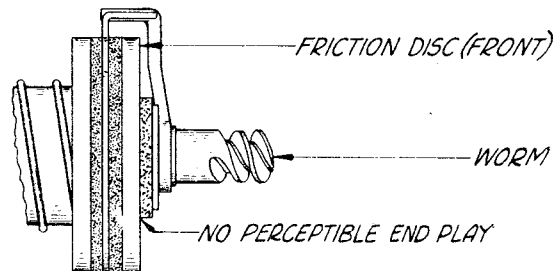

Figure 10
2.25 Counting-shaft Endplay: The counting shaft should have no perceptible endplay. See Figure 10.